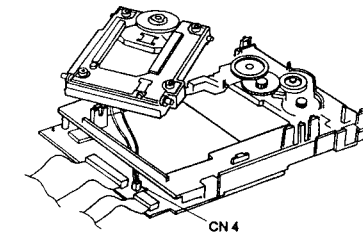

Figure 26
- (6) Turn over the CD-ROM Drive Unit again.
- (7) Connect the connector (CN 4) as shown in Figure 26.